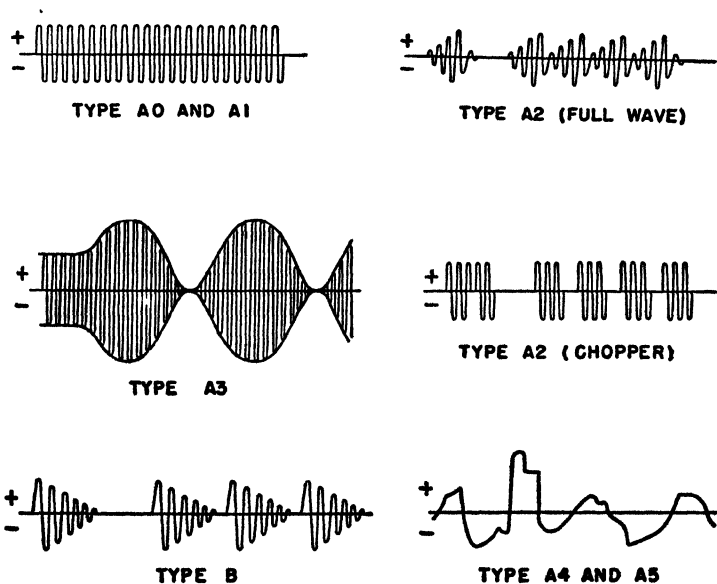

FIG. 6-2.—Types of radio-wave emissions.
**Ans.** Figure 6-2 illustrates all types of emissions.